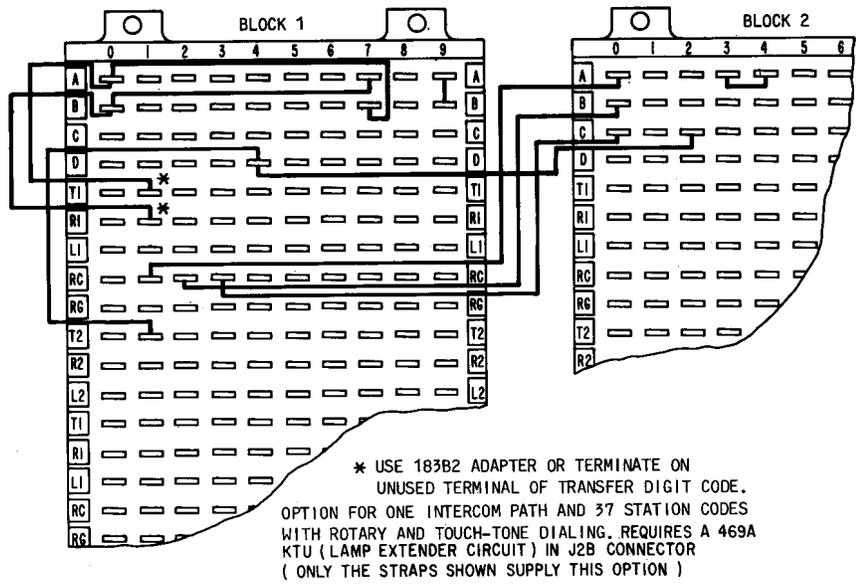

Fig. 10—Y Option
4.06 The Y option (Fig. 10) provides for one intercom path with 37 station codes. Stations can